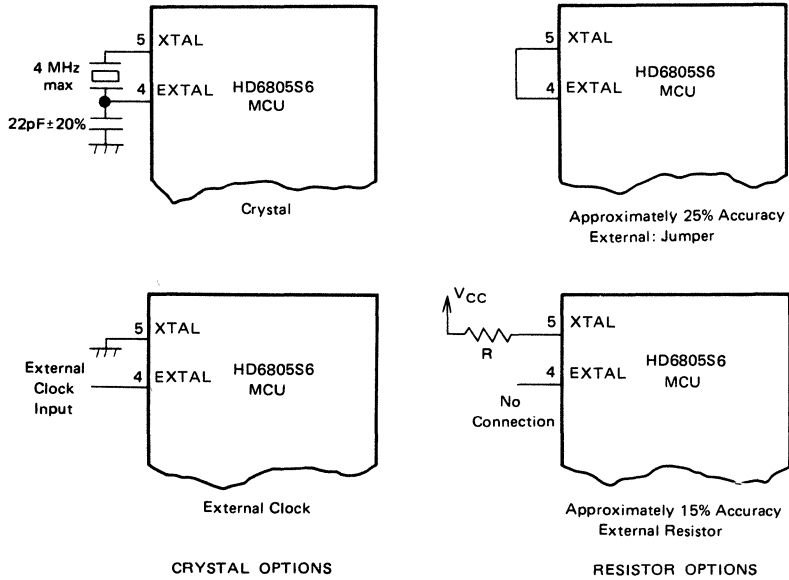
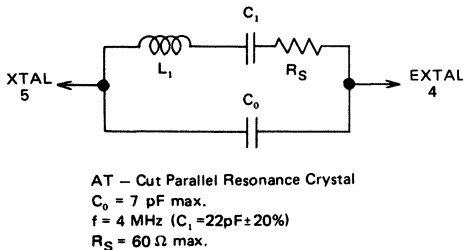
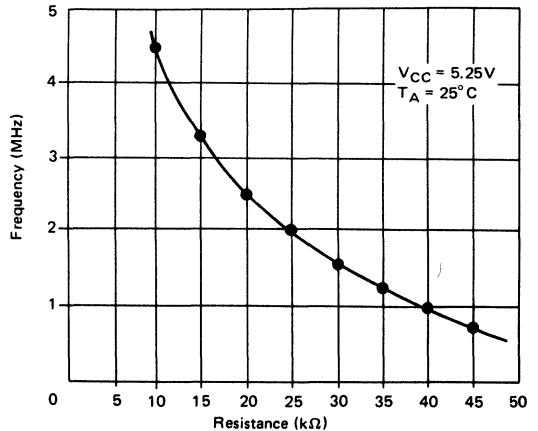

Figure 9 Internal Oscillator Options
Figure 10 Crystal Parameters
Figure 11 Typical Resistor Selection Graph
* Refer to Figure 9 about crystal option
The internal oscillator circuit is designed to require a minimum of external components. A crystal, a resistor, a jumper wire, or an external signal may be used to generate a system clock with various stability/cost tradeoff. A manufacturing mask option is required to select either the crystal oscillator or the RC oscillator circuit. The different connection methods are shown in Figure 9. Crystal specifications are given in Figure 10. A resistor selection graph is given in Figure 11.